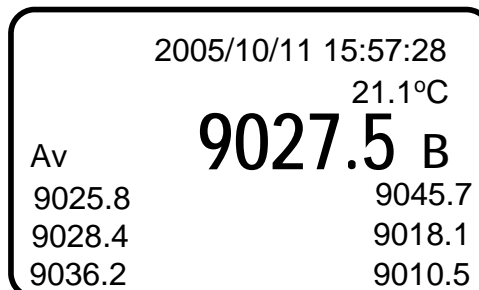

Figure 29 – Reviewing Multiple Sensors
- Figure 29 illustrates 6 independent sensors associated with a single location. The average of these 6 readings is displayed in bold.
During multi-channel operation, the individual readings are displayed with the average in bold (Figure 29). The datalogging feature only records the raw readings, the average can then be calculated when the data file is exported to *.csv format in the Host Software.